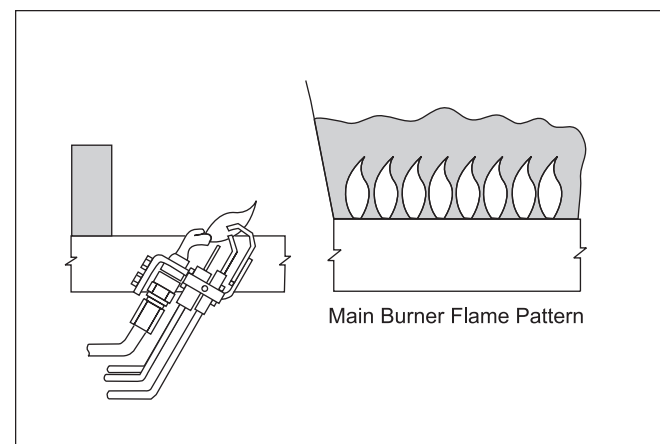

Figure 14. Flame Patterns.
5. Once the heater is running, check the appearance of the burner flames (see Figure 14). The burners are located behind a cover on the front of the unit (see Figure 2.) If the flame has “sooting” tips, check for debris near the orifices. If the orifices are plugged, call a service technician to correct the problem.